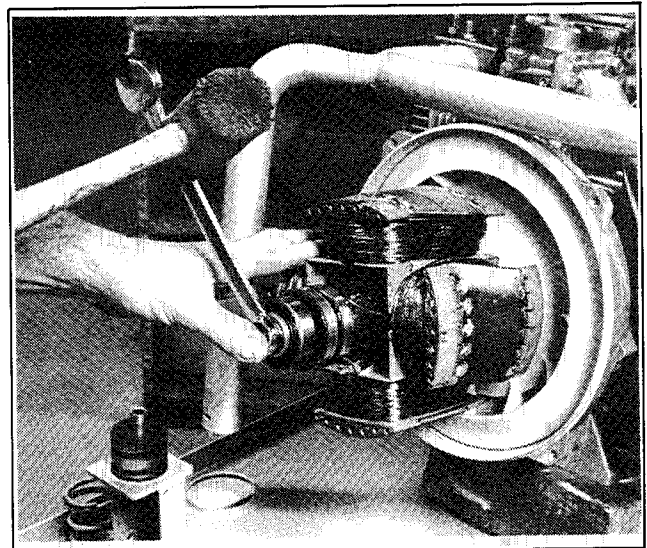
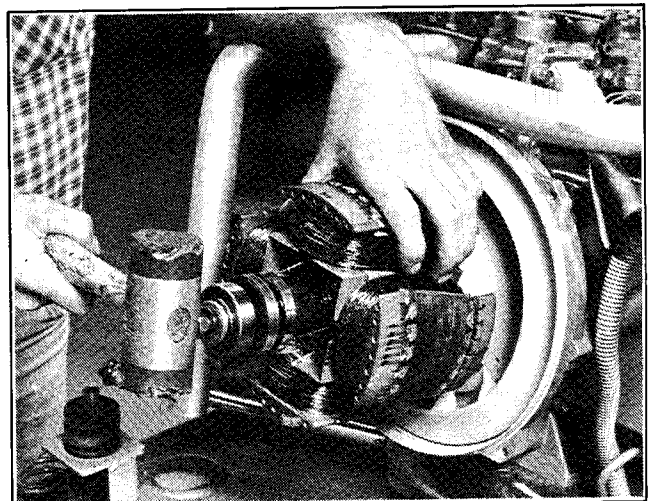

Figure 8-12. Loosening Thru-Bolt
Figure 8-13. Striking Thru-Bolt
11. Loosen thru-bolt 2-3 turns leaving a 1/8 inch (3 mm) gap between bolt and rotor (Figure 8-12) and then strike thru-bolt head with a lead hammer using a medium force blow to loosen rotor, see Figure 8-13.